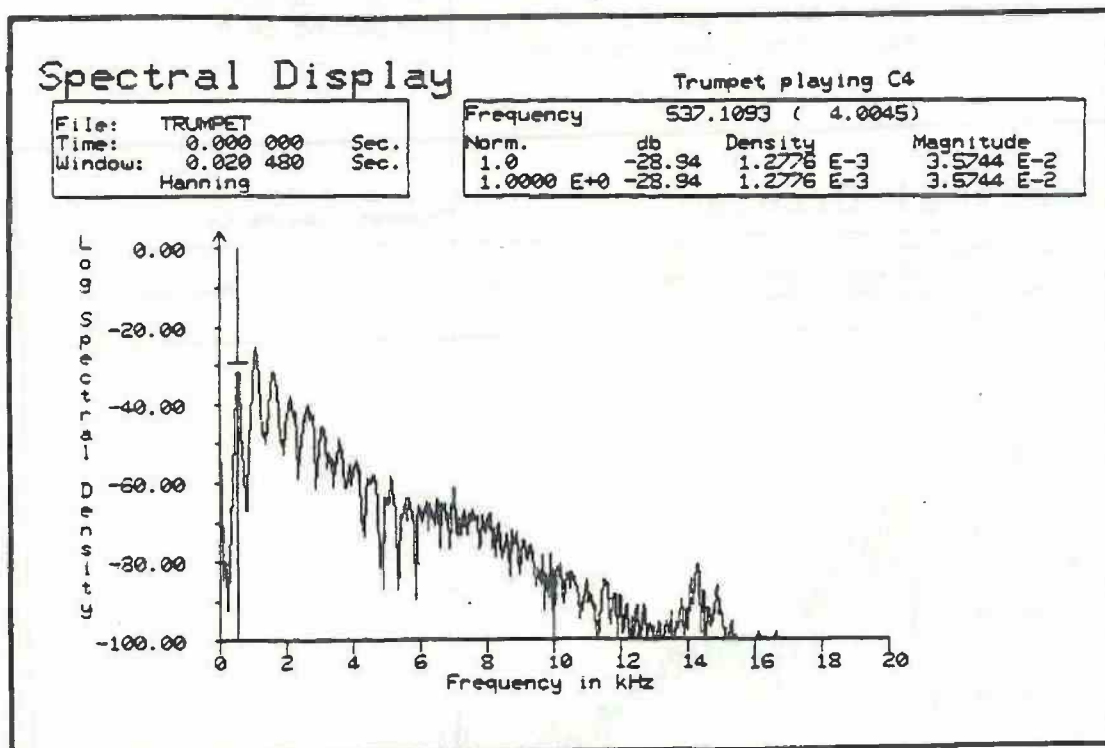

Figure 9.6
2. Position the cursor over the first peak in the spectral display (Figure 9.6).